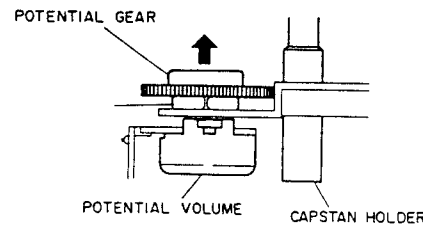

Fig. 3-14
- 4) Remove the potentiometer gear. Unscrew the position potential volume securing nut. (Refer to Fig. 3-14.)